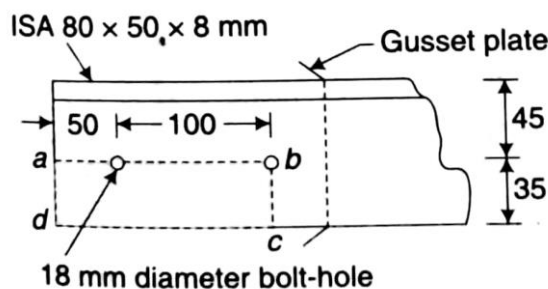

Fig 1
- Determine the block shear strength of the tension member shown in Fig 1. The steel is of grade Fe410. [6M] (C.O.No.3) [Comprehension]
5. Determine the design tensile strength of ISA 80x50x8 (as per Fig. 1) connected to a 10 mm thick gusset plate using 16mm bolts. Assume Fe410 grade steel. Consider only gross section yielding and net section rupture. $A_g = 978\text{mm}^2$. [12M] (C.O.No.3) [Application]